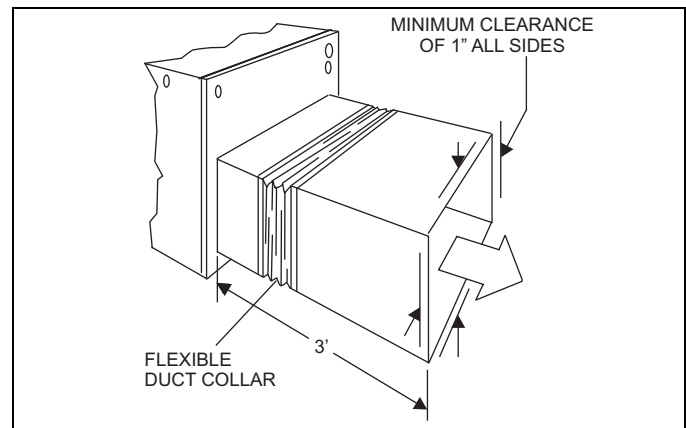

FIGURE 1: Plenum Clearances
2. Refer to the unit rating plate for the air handler model number, and then see the dimensions page of this instruction for supply air plenum dimensions in Figure 1. The plenum must be installed according to the instructions.
If electric heat is used, a minimum clearance of 1" must be maintained on all sides of the supply air duct and/or plenum continuously for up to 3' (See Figure 1).